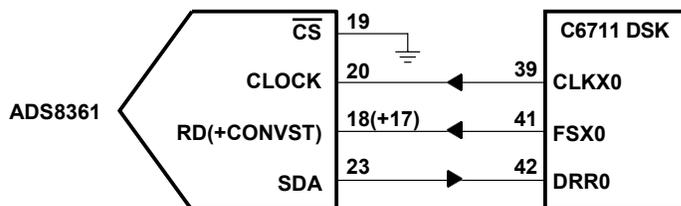

Figure 1. Hardware Interface Block Diagram
The hardware interface is seamless between the C6711 DSK and the ADS8361 EVM. The DAP data acquisition system interface board provides direct access to the C6711 DSP McBSP ports (note: this report uses McBSP1). The hardware connections are shown in Figure 1 via the DAP data acquisition system interface board. The CLOCK, RD(+ CONVST), and SDA pins from the ADS8361 are connected to CLKX0, FSX0, and DRR0 pins of McBSP1 respectively. The chip select (CS) pin is grounded because only one A/D converter is placed on the port. If more than one device is on the bus, then chip select should be controlled by any available GPIO on the C6711DSK.